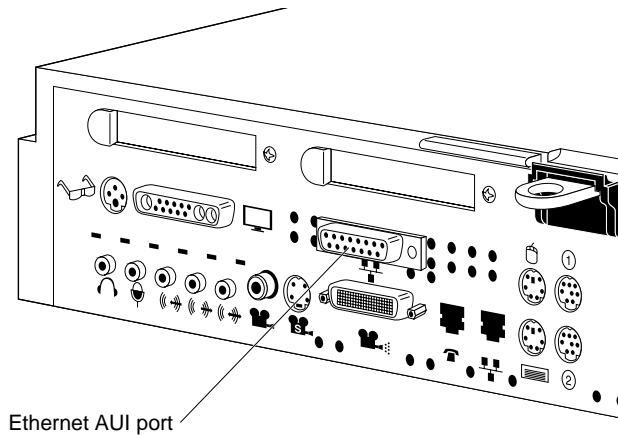

Figure 2-2 Connecting an Ethernet AUI Cable to the Indy Workstation
2. Connect the Ethernet AUI cable to the Ethernet AUI port on the back of the Indy workstation, as shown in Figure 2-2.